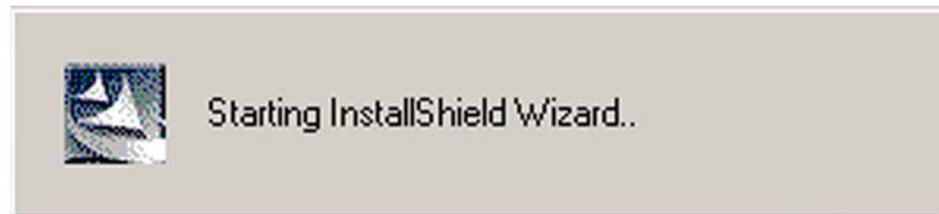

Figure 7-12: Audio Driver Install Shield Wizard Starting
Step 4: The install shield wizard for the audio driver starts. See **Figure 7-12**.